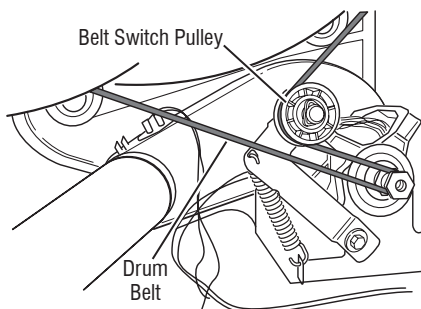

Figure 7 - Slowly remove drum belt
7. Check the drive motor and belt switch (gas dryer only). Slowly remove the drum belt from the spring-loaded belt switch pulley, gently letting the belt switch pulley down. See figure 7.